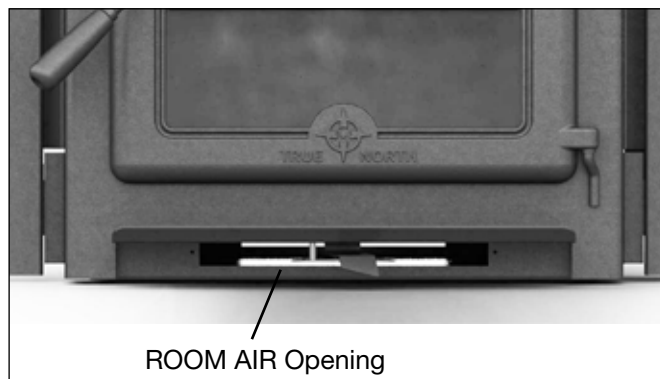
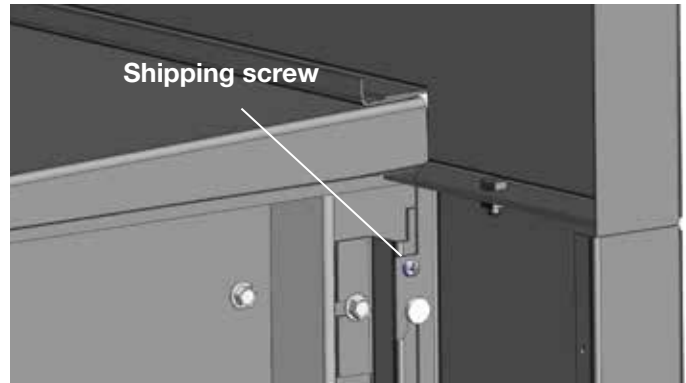

Figure10: Room air opening.
Figure 12: TN20 Shipping screw
1. Remove the shipping screws located at the top of each surround side panel (fig. 10). remove the two screws holding the Fan Controls on the side panel and remove the controls (fig.12). Lift to remove both panels from the unit.